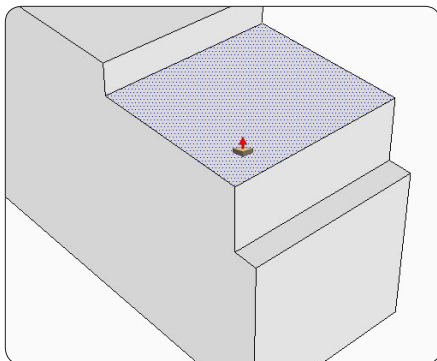

Figure 10. Using the Push/Pull Tool to shape the rabbet.
Step 7 Select the Push/Pull Tool. Click on the area at the right of the top face. Use the tool to push that part down by typing $\frac{1}{2}$ and pressing the Enter key (Figure 10).